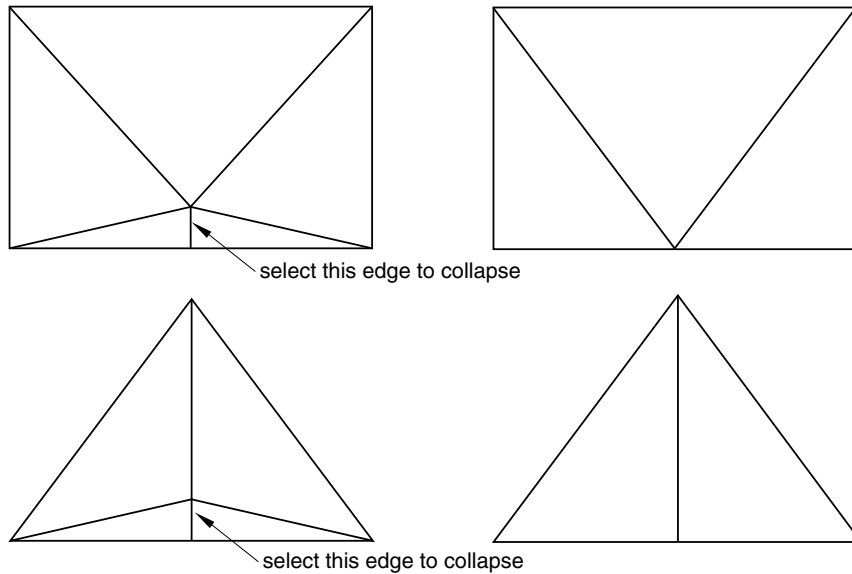

Figure 64–1 Collapsing an edge to remove slivers from quadrilateral and triangular elements.
- Collapse a selected edge of quadrilateral or triangular elements. Collapsing an edge is useful for removing slivers from quadrilateral and triangular elements, as shown in Figure 64–1.
When you preview a tetrahedral boundary mesh, you can collapse selected edges of the triangular elements to remove slivers. In some cases, when you create an all-quadrilateral mesh using the advancing front algorithm, Abaqus/CAE may generate quadrilateral elements with a short edge. You can collapse the short edge and create a well-formed triangular element, as shown in Figure 64–2.